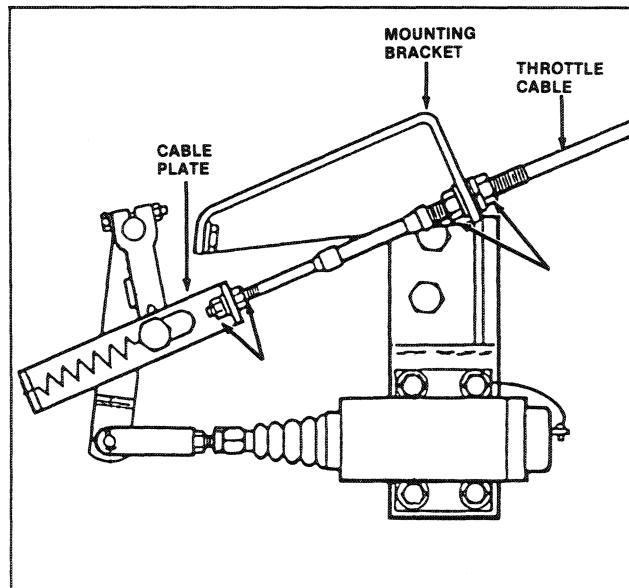

FIGURE 2-9: Throttle Cable Installation
13. Install throttle cable to mounting bracket with two hex nuts and lockwashers (Figure 2-9).